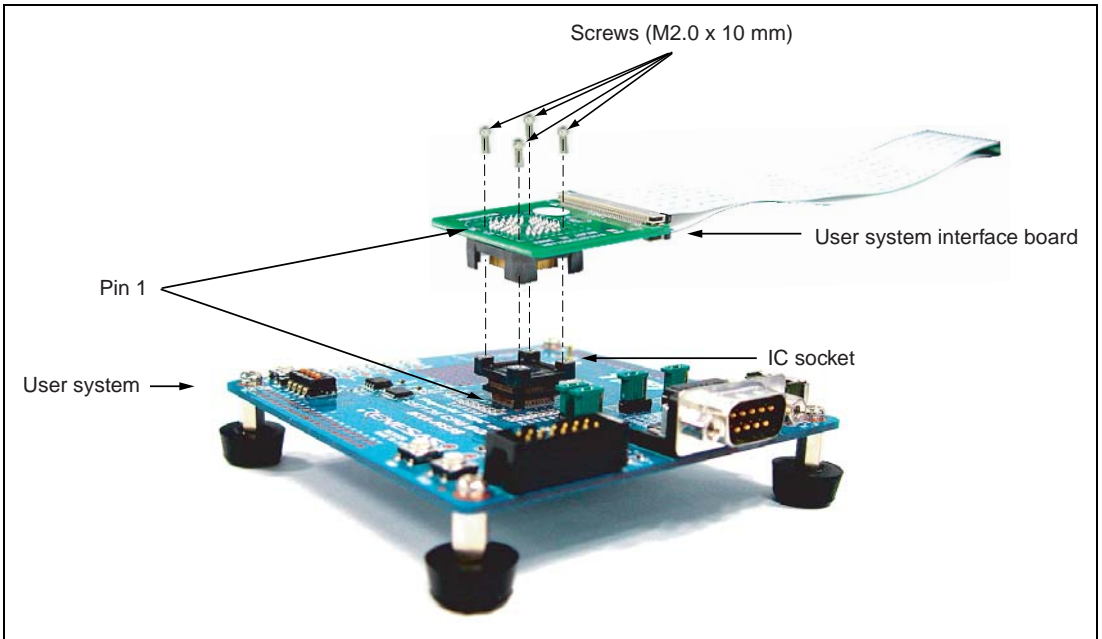

Figure 2.5 Connecting the User System Interface Board to the User System
2. Align pin 1 on the IC socket on the user system with pin 1 on the user system interface board, and plug the user system connector of the interface board into the IC socket on the user system, as is shown in figure 2.5.